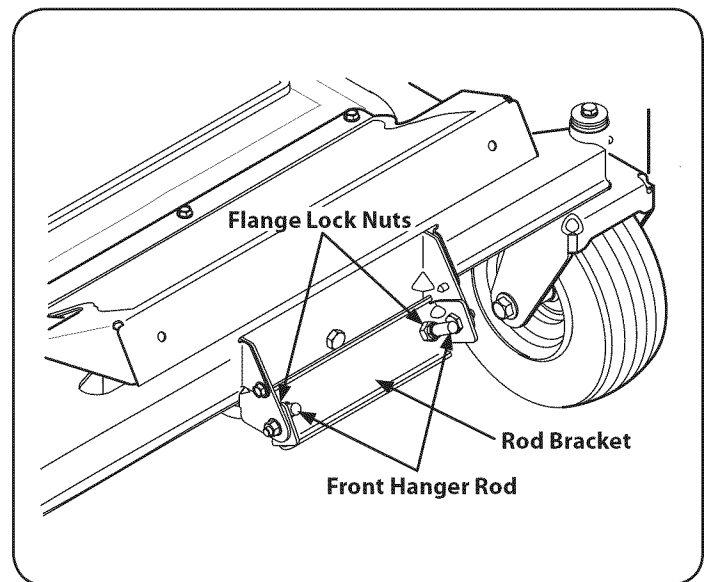

Figure 35
4. If the front of the deck was too low, turn the flange lock nuts clockwise against the hanger bracket to shorten the front hanger rod and raise the front of the deck. Refer to Figure 35.
- b. Make certain the belt is in the spindle pulleys of the deck, and that the backside of the belt is against both the fixed and movable idler pulleys. Refer to Figure 35.